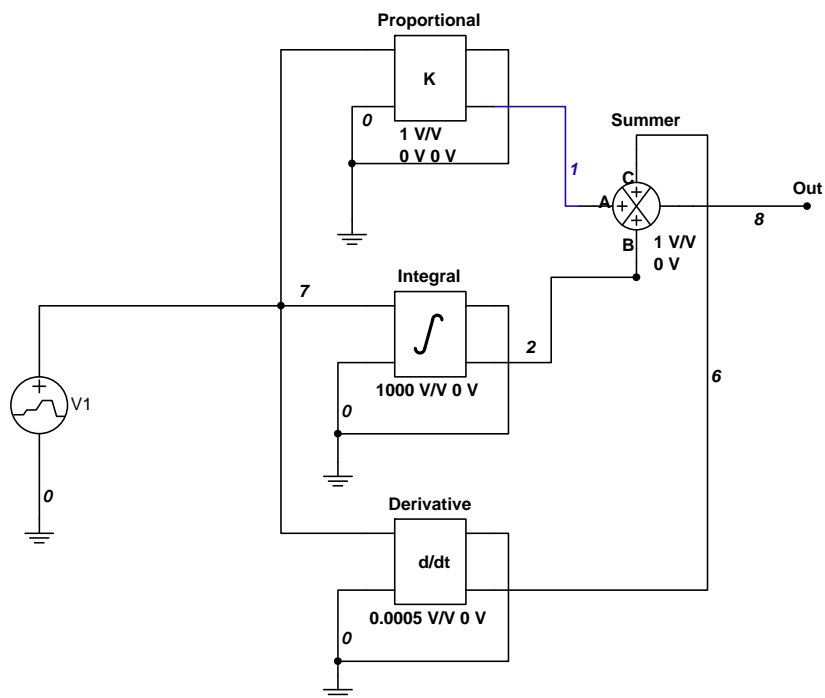
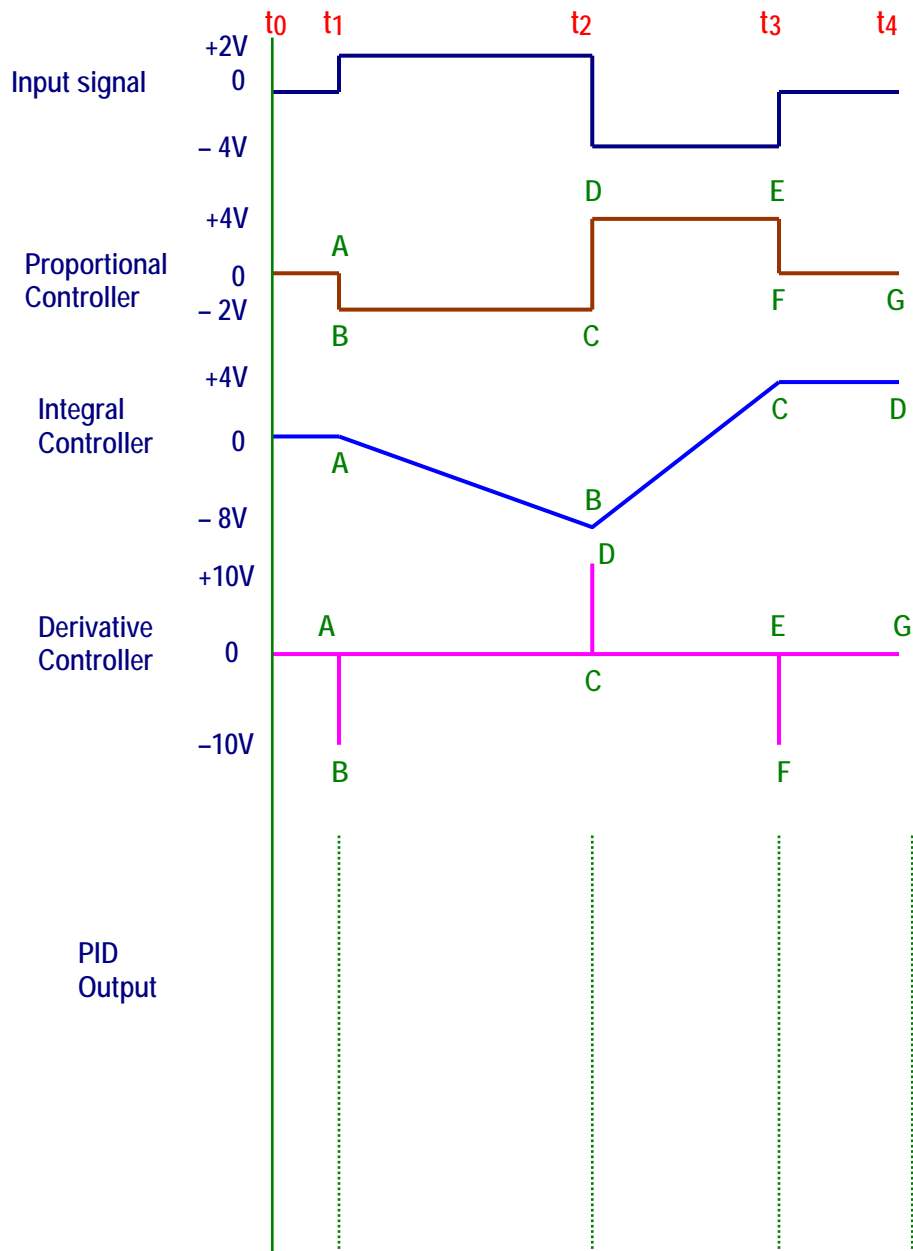

Figure 9-13. PID controller using Multisim
Figure 9-16. PID output with summer gain = -1 .
1. Build the circuit shown in Figure 9-13 using Multisim.
2. Change the gain of the summer to -1 in Figure 9-13. Draw the expected waveform in Figure 9-16 and compare it with the one obtained in Multisim.